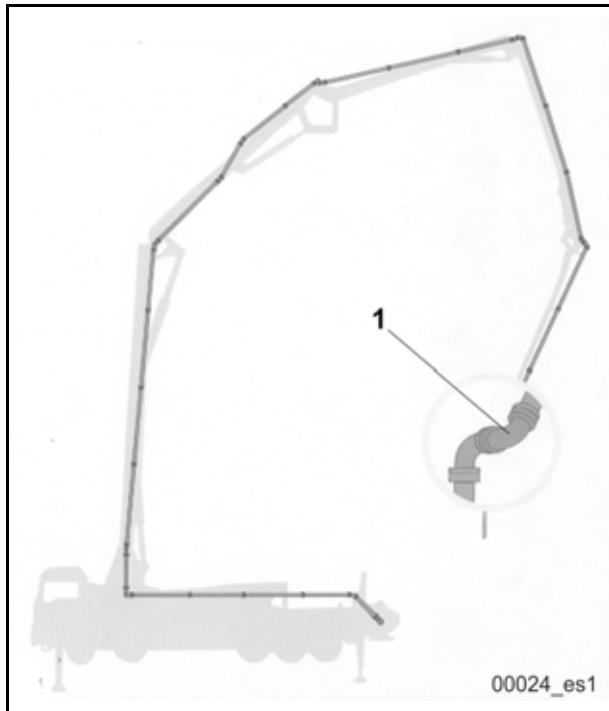

Fig. 342
The impact bend (1) (**Fig. 342**) is the penultimate bend in the boom pumping line. The concrete frequently falls into this elbow and the impacting material causes so-called impact wear.